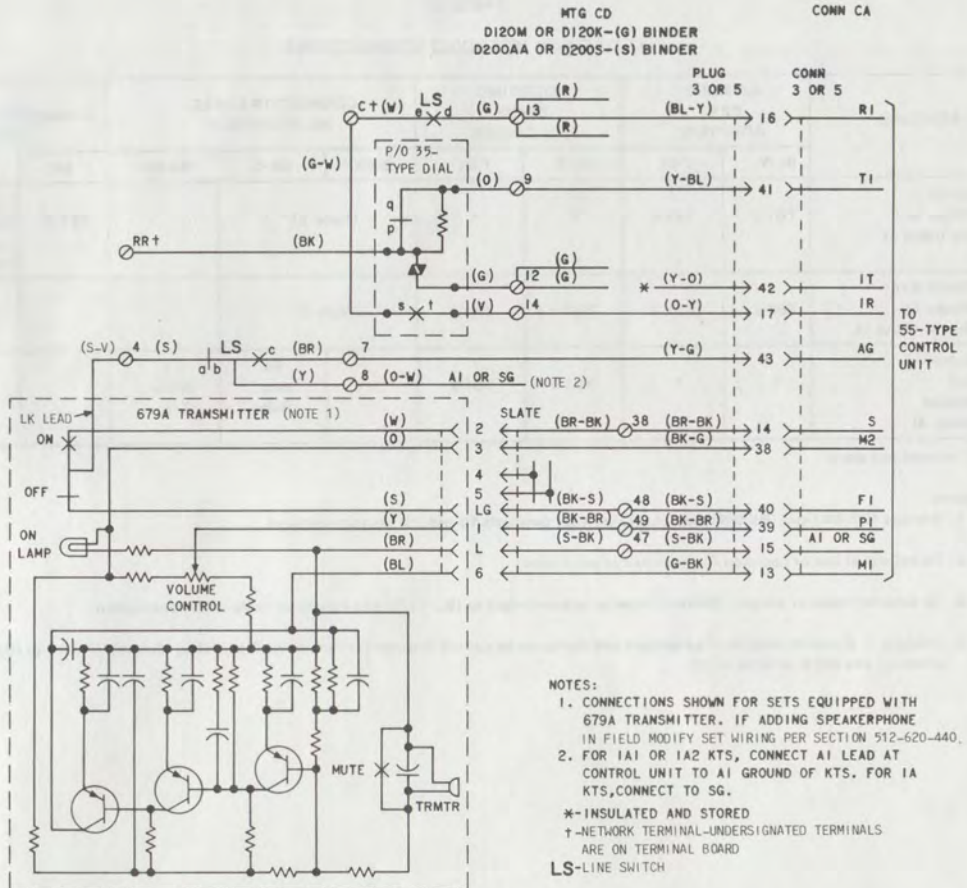

Fig. 4—3-Type (MD) Speakerphone Connections Using Internal 679A (MD) Transmitter
**2.10** Sets may be equipped for 3-type (MD) speakerphone by the addition of a 679A (MD) transmitter in the 3rd (2630-type) or 5th (2631-type) module (Fig. 4). Refer to Section 512-620-440 for necessary wiring changes and connections. Wiring of sets with speakerphone and necessary field modifications are shown in Fig. 4 and Table D.
2. IN SETS EQUIPPED WITH A 658A KEY THE (G) CONTACT STRIP LEAD IS TERMINATED ON 17 AND (R) ON 18. IF A 658A KEY IS ADDED IN THE FIELD, LEADS MUST BE MOVED FROM PRECEDING MODULE CHAINING CIRCUIT TO TERMINALS 17 AND 18.
5. MODULE MAY ALSO BE EQUIPPED WITH A 679A INTERNAL TRANSMITTER FOR SPEAKERPHONE. SEE FIG. 4 AND SECTION 512-620-440 FOR WIRING CHANGES.
6. TO SUPPLY "I" HOLD FEATURE TERMINATE (Y-BR) MOUNTING CORD LEAD FROM (O) BINDER GROUP TO TERMINAL 24. LEAD BECOMES SP LEAD AT EQUIPMENT.
7. IF HOLD POSITION LAMP IS REQUIRED CONNECT (G-Y) AND (Y-G) LAMP LEADS TO SPARE PAIR USING SPARE TERMINAL OR D-161488 CONNECTORS. LAMP MUST BE SEPARATELY ORDERED AND INSTALLED. HOLD POSITION LAMP CANNOT BE ILLUMINATED WHEN EXTERNAL TRANSMITTER IS WIRED FOR 3-TYPE (MD) SPEAKERPHONE USING MOUNTING CORD LEADS.
8. 3-TYPE (MD) SPEAKERPHONE LEADS WHEN ASSOCIATED WITH EXTERNAL TRANSMITTER.
9. THESE CONTACT STRIPS ARE REQUIRED WHEN TELEPHONE SET IS EQUIPPED WITH THE D120K (MD) OR THE D200S (MD) MOUNTING CORD. THESE CONTACT STRIPS SHOULD NOT BE USED WHEN TELEPHONE SET IS EQUIPPED WITH THE D120M OR D200AA MOUNTING CORD OR WHEN TELEPHONE SET IS EQUIPPED WITH A MODIFIED D120K OR D200S MOUNTING CORD.